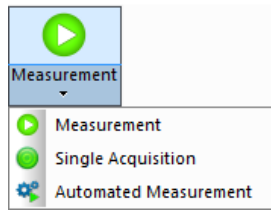

Figure 6 Measurement Button
1. **Start the Measurement:** Click the "Measurement" button located on the left side of the application ribbon. (Figure 6)